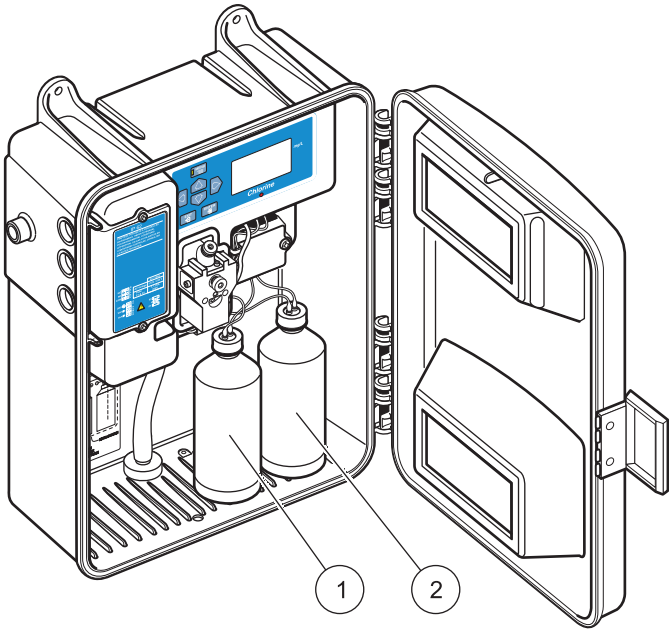

Figure 4 CL17 reagent location
- a. Prepare and install the reagents (Figure 4), stir magnet and pinch plate. See the CL17 user manual (Cat. No. 5440018) for detailed instructions.